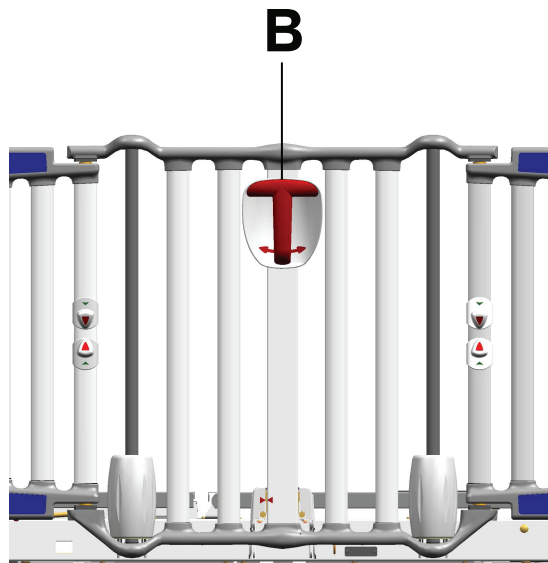

Figure 6 – Siderail activation handle
1. Grasp the siderail activation handle (B), press the activation trigger, and turn the handle left or right (Figure 6).